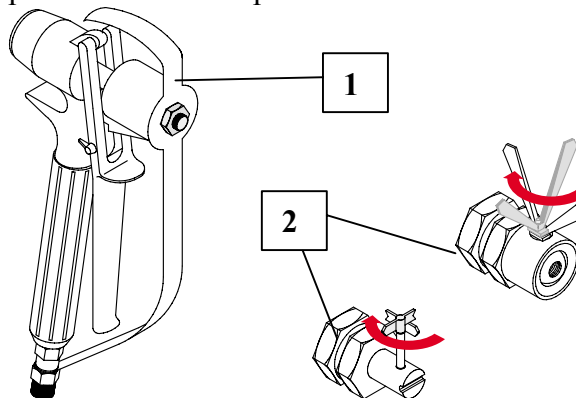

Fig.48
3) Replace the nozzle on the gun using the spanner provided and paying attention to the direction in which the nozzle will be spraying (Fig.48)